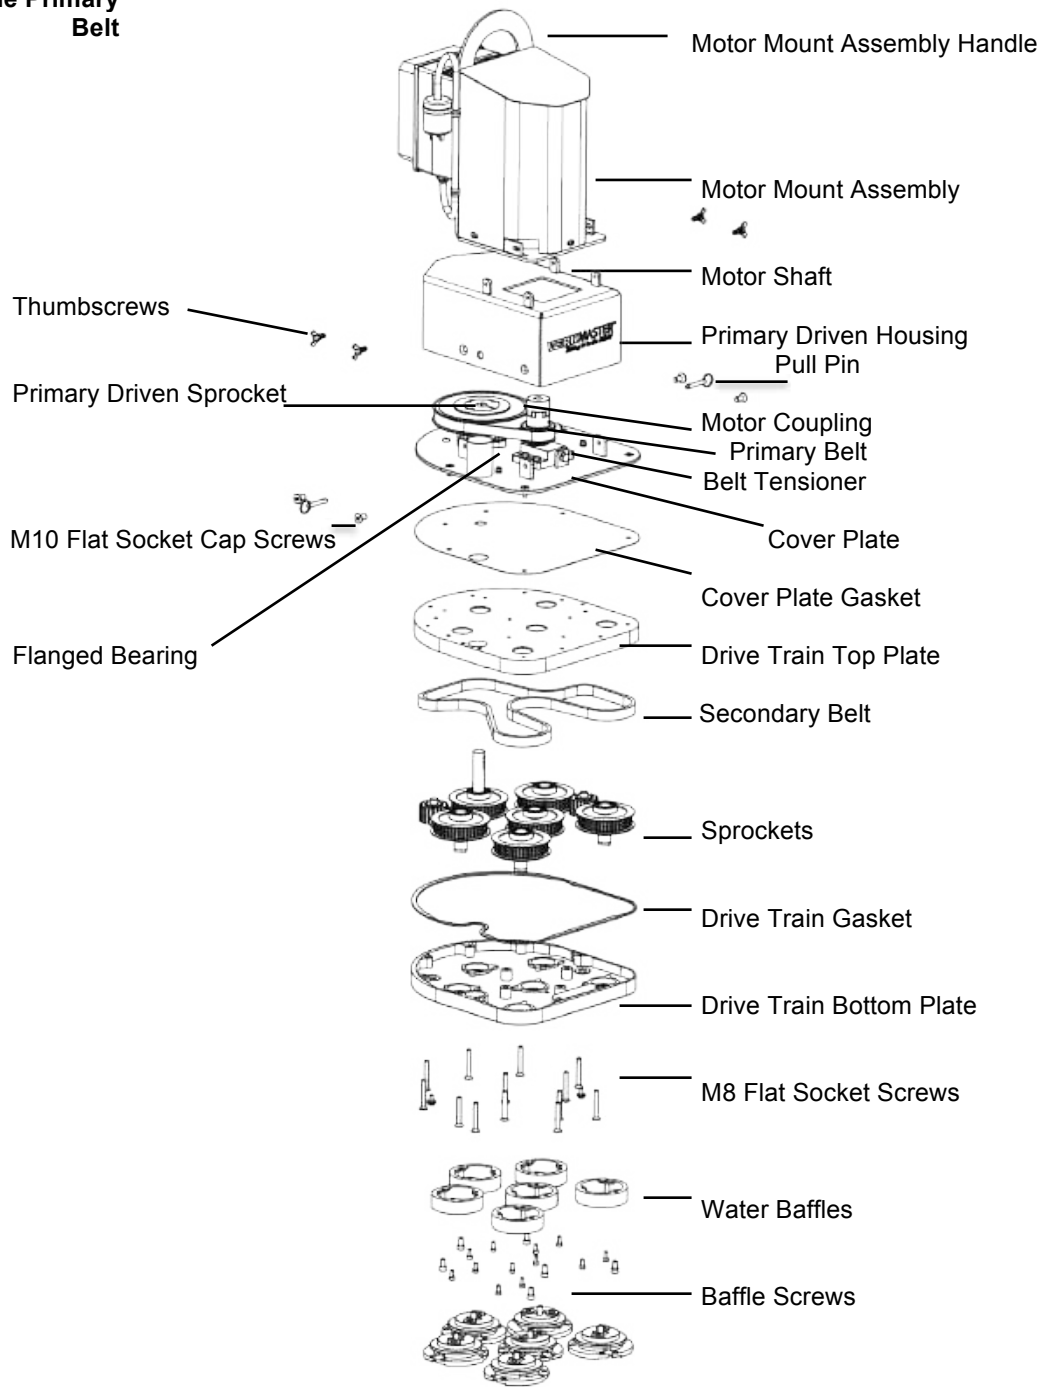

Fig. 7
6. Remove the four M10 flat socket cap screws on the primary driven housing (Fig 7) exposing the primary belt.
7. Loosen the four M8 hex head bolts and the M10 hex head bolt on the belt tensioner (Fig 7) and slide forward to relieve tension.
4. Remove the water baffles (Fig 7).